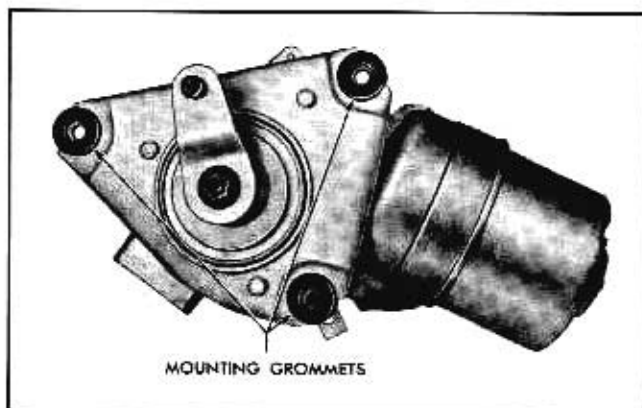

Fig. 11-76 Mounting for Two Speed Wiper
3. Install crank arm in park position according to application (Fig. 11-76).